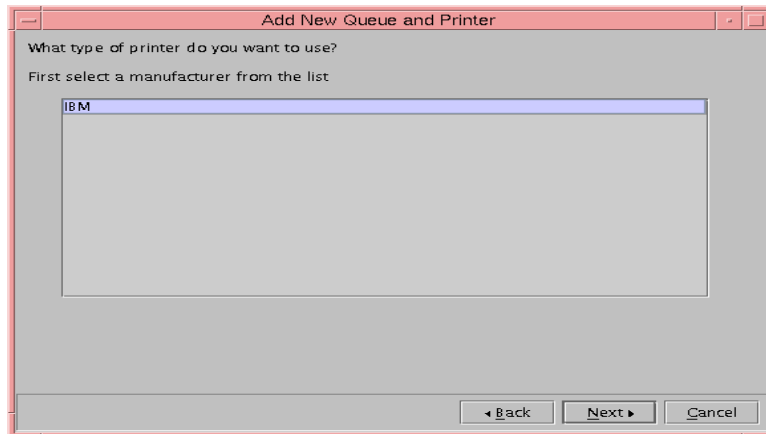

Figure 84. IBM Network Printer manufacturer
- We selected the manufacturer, **IBM**, and clicked **Next**, as shown in Figure 84.